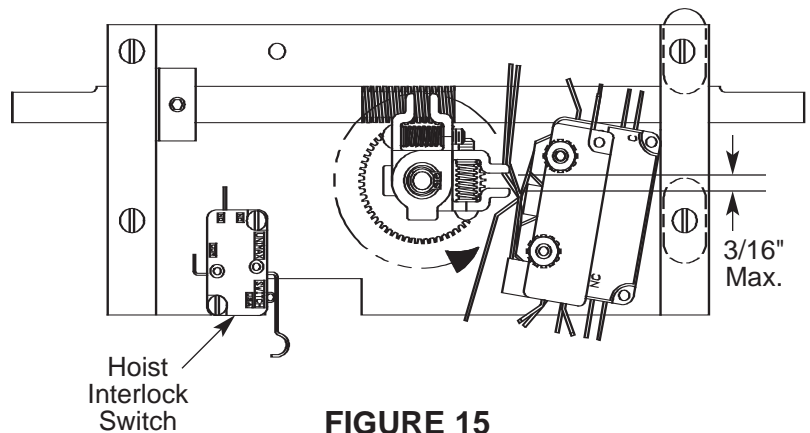

FIGURE 15
- So that limit switches accurately stop the door in the full open and close position, the limit switch cams must operate their respective switches by striking the steep ramp of the switch lever. See Figure 15.